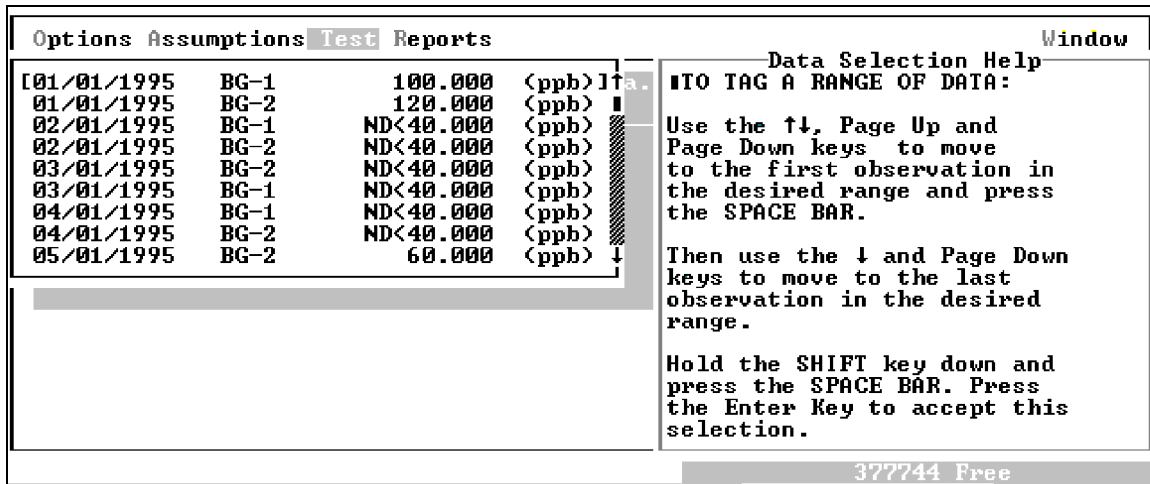

Figure 5-88. The Data Selection dialog.
2. The Data Selection dialog appears on your screen as shown in Figure 5-88.